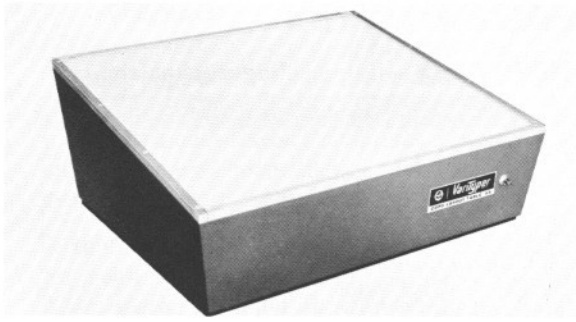

Figure 76
2. VariTyper Copy Layout Table 55 (Figure 76).
The VariTyper Copy Layout Table 55 (Figure 76) is useful in every cold type department for making paste-ups and corrections, as well as for opaquing and stripping of offset negatives.